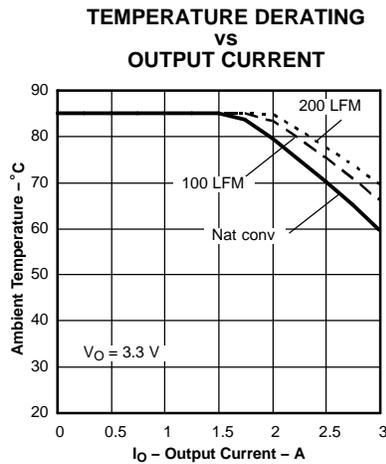
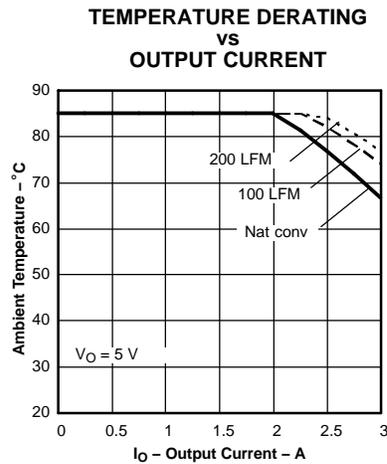

Figure 4.
Figure 5.
- (2) The temperature derating curves represent the conditions at which internal components are at or below the manufacturer's maximum operating temperatures. Derating limits apply to modules soldered directly to a 100 mm x 100 mm, double-sided PCB with 2 oz. copper. Applies to Figure 4 and Figure 5.